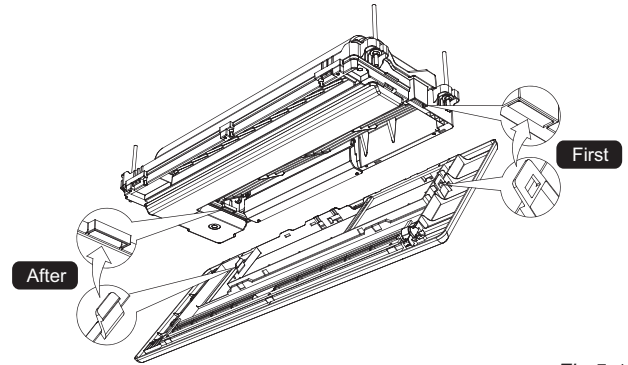

Fig.5-10
- Two buckles on the panel component are used for assisting the panel installation, the installing method of the buckle as Fig.5.10 display.